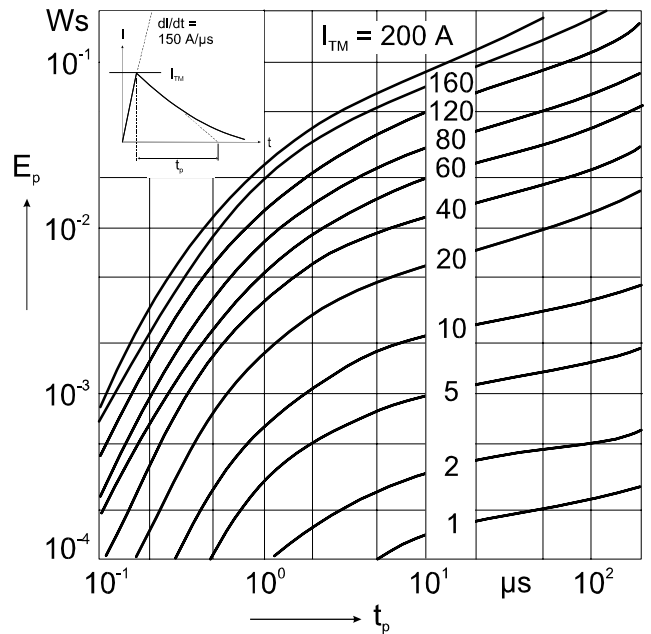

Fig. 6 Energy per pulse for single BOD element for exponentially decaying current pulse. E_p must be multiplied by number of elements for total energy.
- a. The maximum junction temperature shall be calculated for a module IXBOD 1 -30R at an ambient temperature $T_a = 60^{\circ}C$, an exponentially decaying current $I_{TM} = 40A$, a pulsewidth $t_p = 2 \mu s$, an operating frequency $f = 50 Hz$ and natural convection. From the diagram Fig. 6 the energy per pulse is obtained: